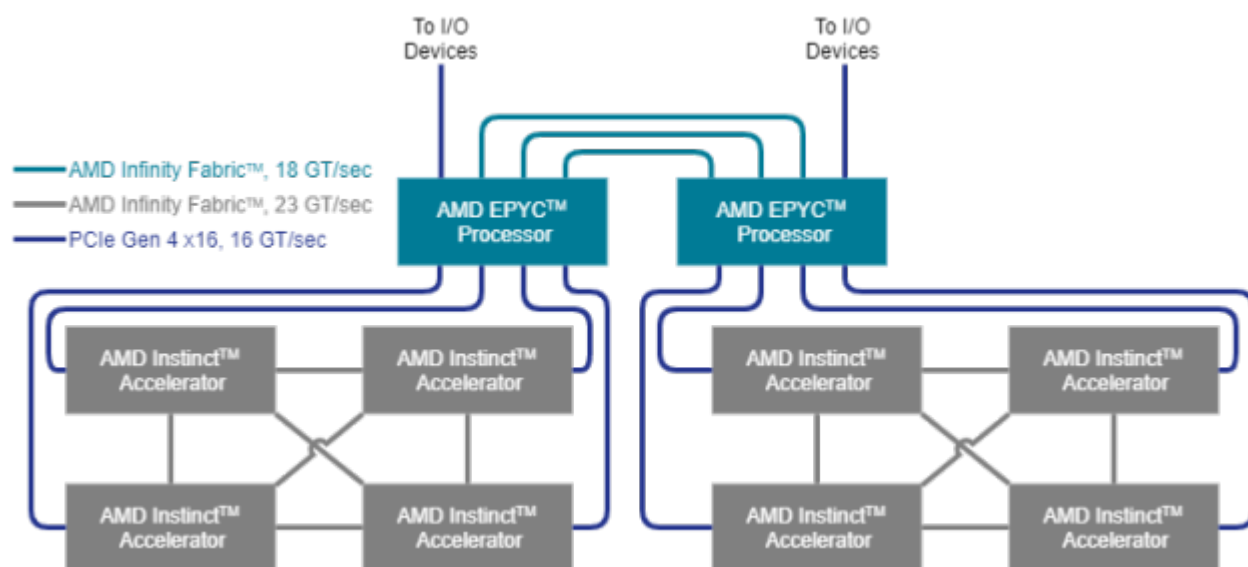
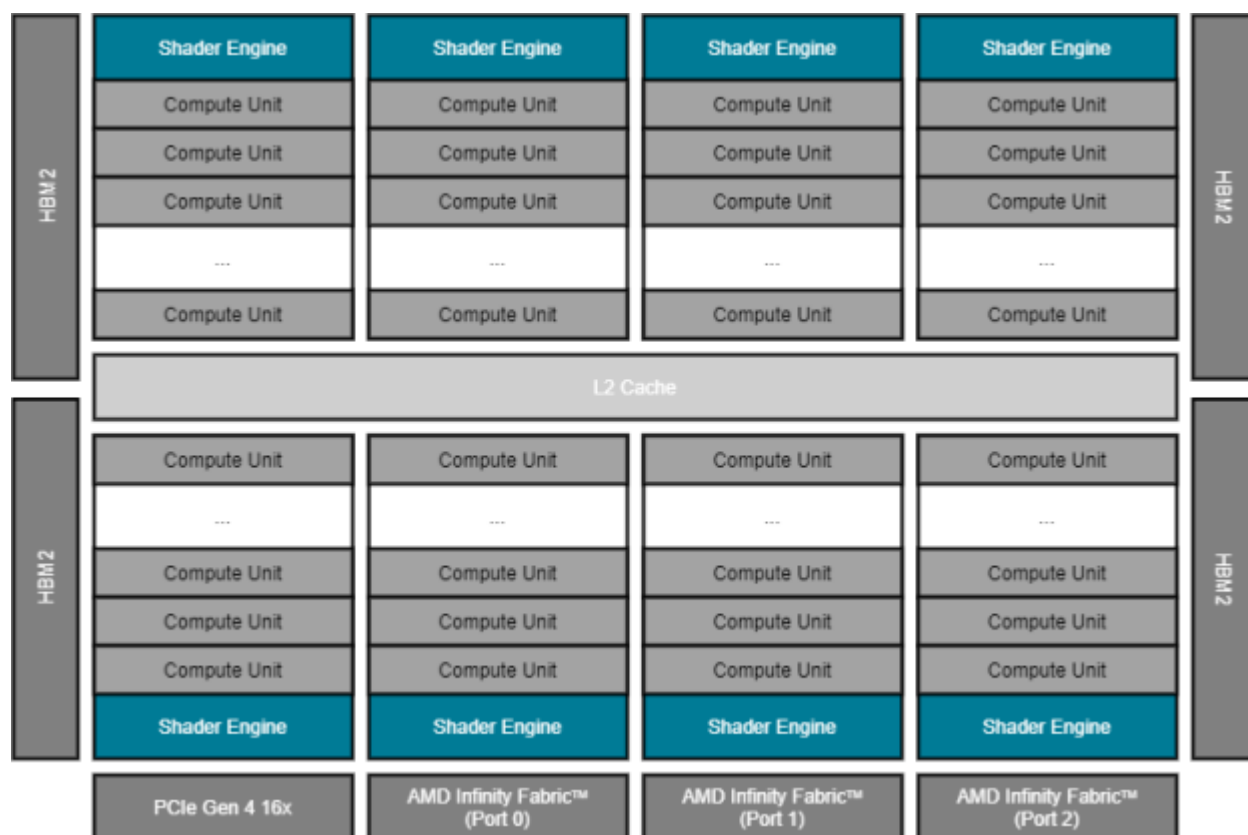

Fig. 29.4: Structure of a single GCD in the AMD Instinct MI250 accelerator.
Fig. 29.5: Structure of the AMD Instinct accelerator (MI100 generation).
Fig. 29.4 shows the node-level architecture of a system that comprises two AMD EPYC™ processors and (up to) eight AMD Instinct™ accelerators. The two EPYC processors are connected to each other with the AMD Infinity™ fabric which provides a high-bandwidth (up to 18 GT/sec) and coherent links such that each processor can access the available node memory as a single shared-memory domain in a non-uniform memory architecture (NUMA) fashion. In a 2P, or dual-socket, configuration, three AMD Infinity™ fabric links are available to connect the processors plus one PCIe Gen 4 x16 link per processor can attach additional I/O devices such as the host adapters for the network fabric.
Fig. 29.5 shows the AMD Instinct accelerator with its PCIe Gen 4 x16 link (16 GT/sec, at the bottom) that connects the GPU to (one of) the host processor(s). It also shows the three AMD Infinity Fabric ports that provide high-speed links (23 GT/sec, also at the bottom) to the other GPUs of the local hive as shown in Fig. 29.4.
The execution units of the GPU are depicted in Fig. 29.5 as Compute Units (CU). There are a total 120 compute units that are physically organized into eight Shader Engines (SE) with fifteen compute units per shader engine. Each compute unit is further sub-divided into four SIMD units that process SIMD instructions of 16 data elements per instruction. This enables the CU to process 64 data elements (a so-called ‘wavefront’) at a peak clock frequency of 1.5 GHz. Therefore, the theoretical maximum FP64 peak performance is 11.5 TFLOPS (4 [SIMD units] × 16 [elements per instruction] × 120 [CU] × 1.5 [GHz]).